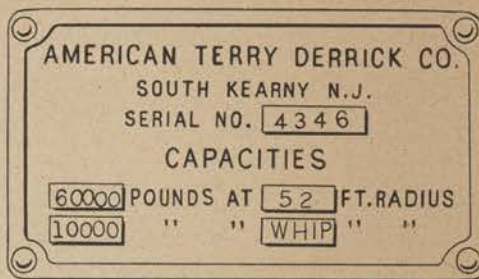

Figure 8. Nameplate, derrick.
(4) *Derrick (fig. 1).* The derrick is composed of an A-frame with back legs which straddle the deck house, a 70-foot boom which pivots on the boom seat located directly in front of the deck house, and four girders on the deck supporting the boom assembly. The boom is raised by a nine-part topping line and the load block by a seven-part load line. Swinging is accomplished by two five-part vang lines. The nameplate for the derrick is located on the boom seat in front of the pivot. (See fig. 8.)